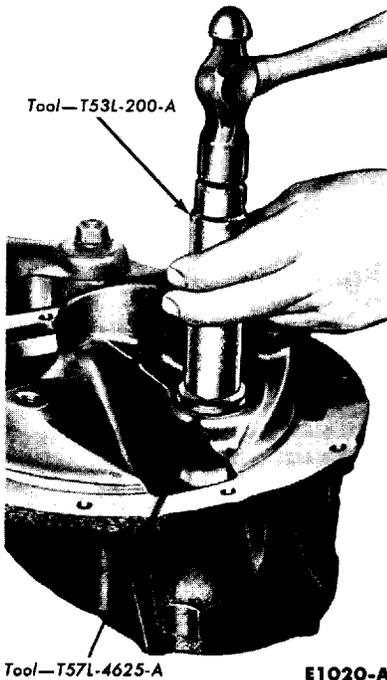

FIG. 12—Pilot Bearing Removal
10. If the pilot bearing is to be replaced, use the tool shown in Fig. 12 to drive the pilot bearing and the bearing retainer out together. To install the bearing, use the same tool